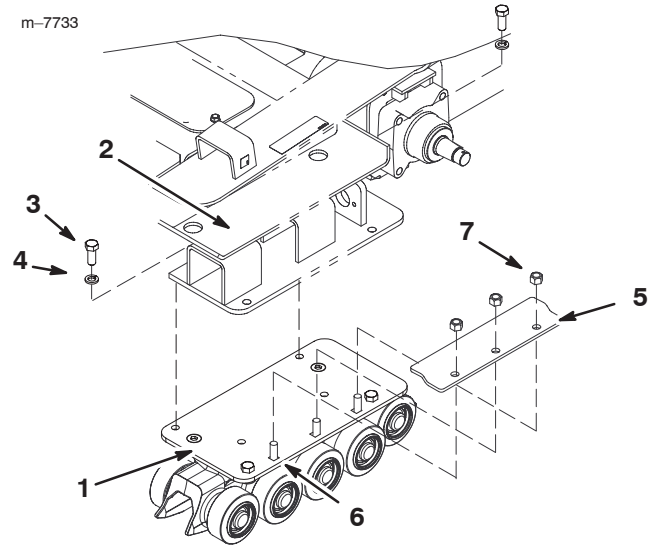

Figure 4
10. Install the track guide assembly to the machine using two bolts (1/2 x 1-1/4 inch) and two lock washers (1/2 inch) down through the frame to the adapter plate of the track guide assembly (Fig. 4).
11. Secure the track guide assembly to the frame installing the clamp plate and three locknuts (1/2 inch) over the carriage bolts installed previously as shown in (Fig. 4).